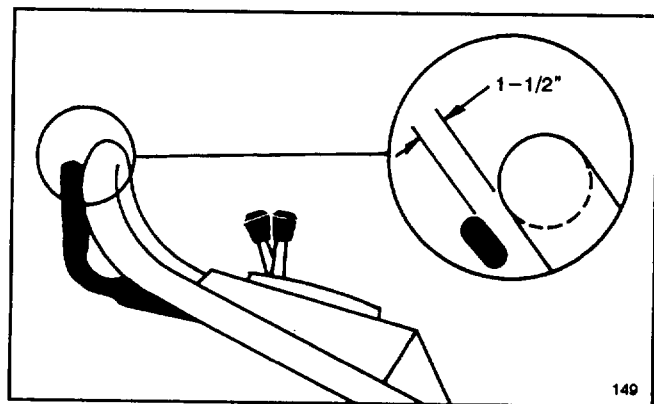

Figure 20
4. Lift control bar until some resistance is felt. Control bar should be 1-1/2" from handle when properly adjusted (Fig. 20).